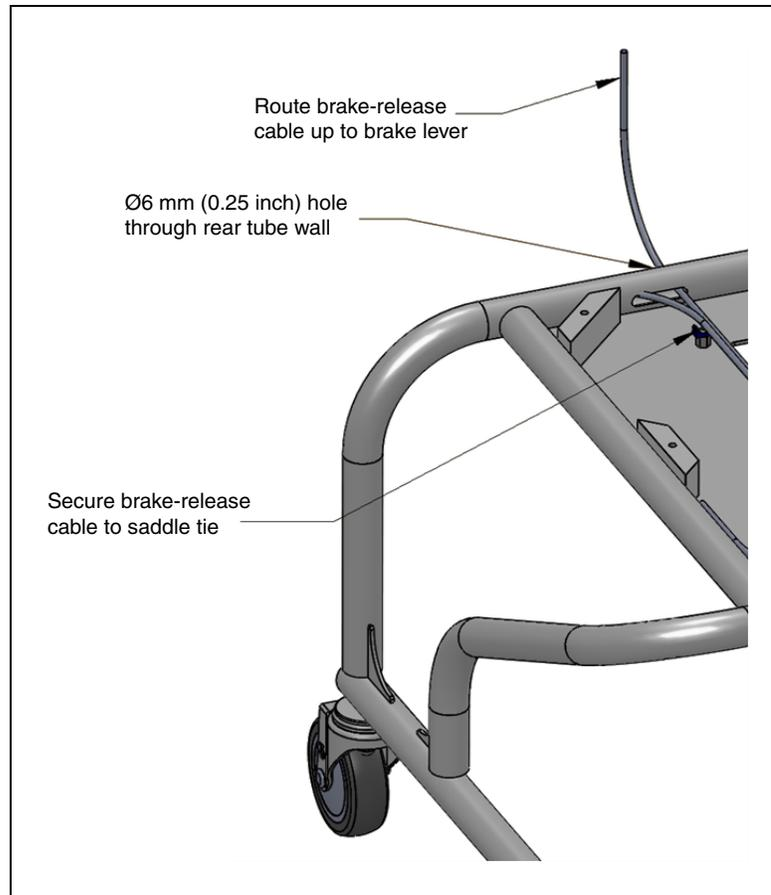

Figure 3-24. Thru-holes for Brake-release Cable, Plate Removed
8. Attach the lever cable housing to the saddle tie. See *Figure 3-24*.